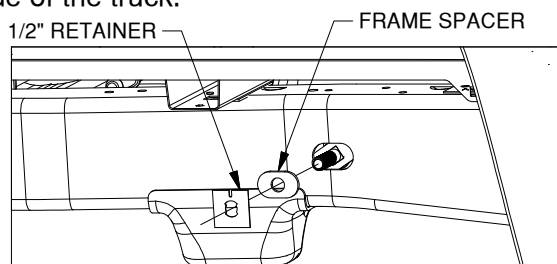

Figure C3: View looking into driver side wheel well.
- 2. Install frame spacers.** Install a frame spacer into each hole over the carriage bolt. To prevent the carriage bolts from falling into the frame. Thread a 1/2" retainer onto each bolt until it is snug against the frame, see Figure C3. Repeat steps 1 & 2 on the other side of the truck.